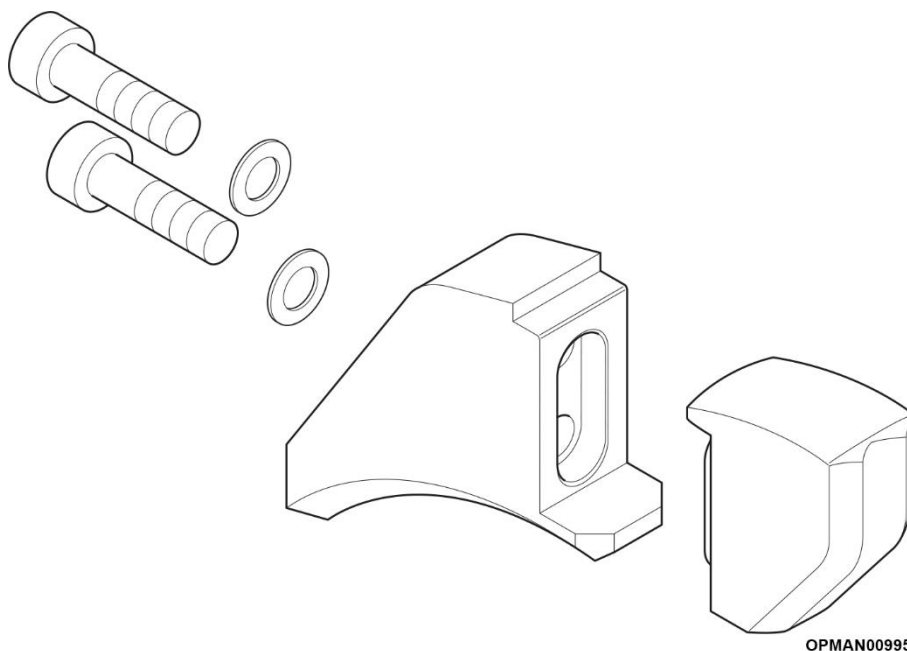

Figure 16
For worn teeth and bolts (see Figure 16):
- Bolts fix the teeth to the rotor shaft using two bolts, see Figure 16. Each time a tooth is replaced, the two bolts also be replaced with new items.